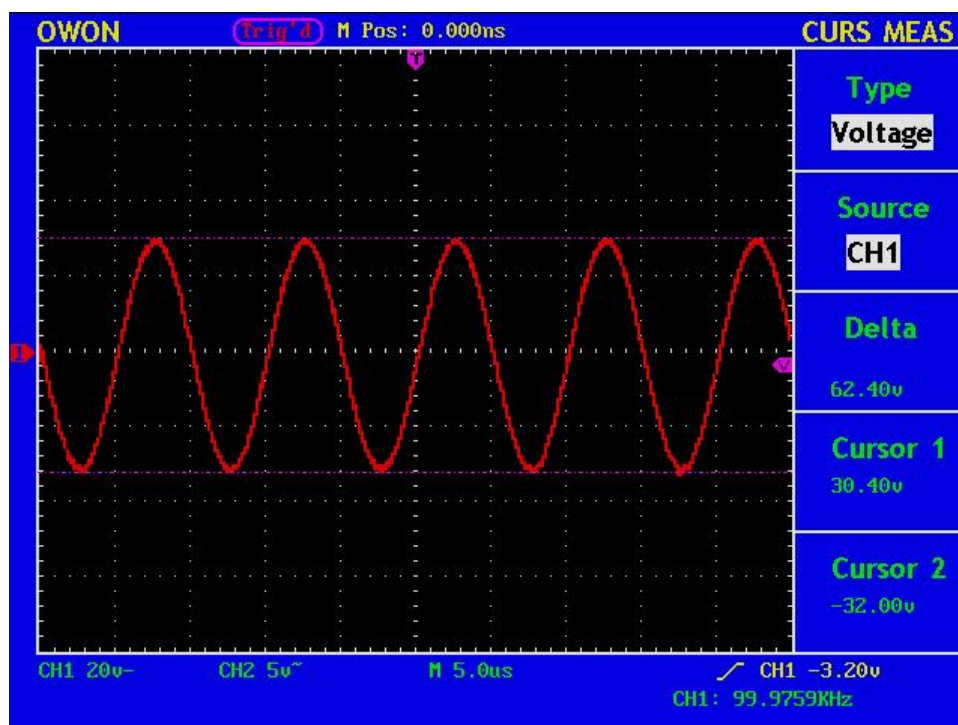

Fig. 58 Waveform of Voltage Cursor Measurement
4. Adjust the positions of **CURSOR1** and **CURSOR2** according to the measured waveform, with the absolute value of the voltage amplitude difference between Cursor 1 and Cursor 2 displayed in the increment window. The current position of Cursor 1 is displayed in the Cursor1 window and that of Cursor2 is displayed in the Cursor2 window (see Fig. 58).